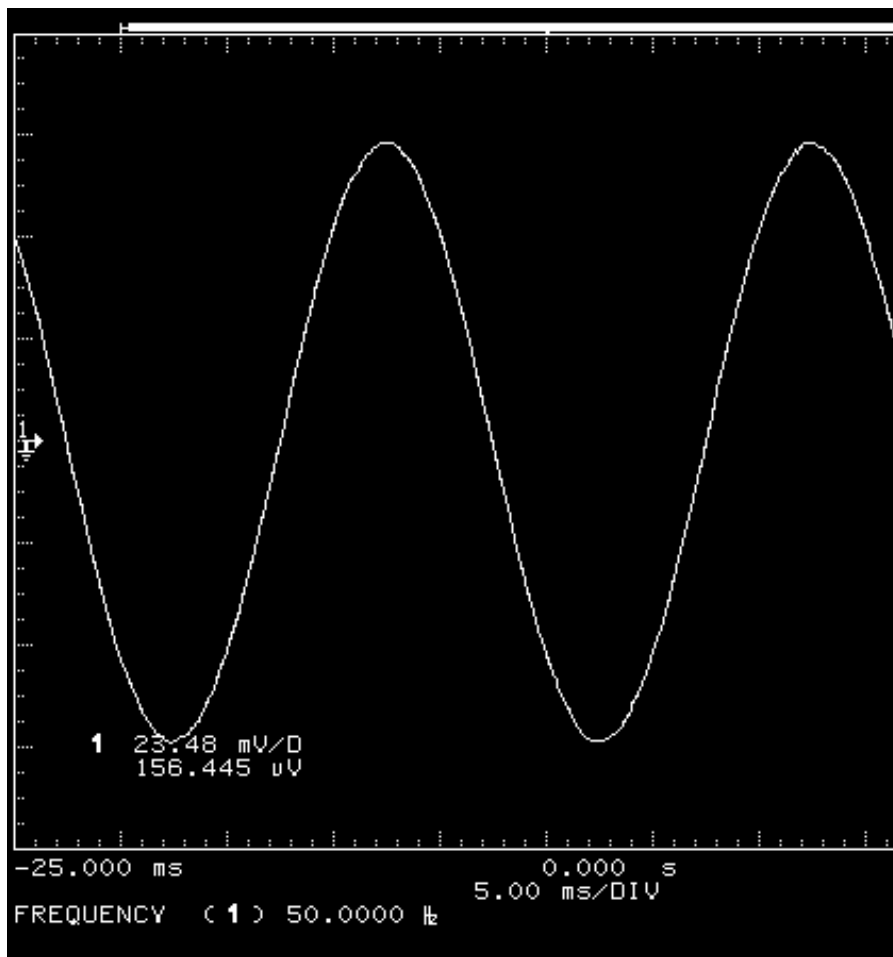

Figure 1
2. Make sure the scope's effective sample rate is as fast as possible. Most oscilloscopes decrease their effective sample rate as the time/div is slowed. (Note that repetitive scopes can have a high effective sample rate, even with a low actual sample rate). If you suspect an aliased waveform, increase the sweep speed to ensure that the scope is sampling as fast as possible for proper display of the waveform. For example, Figure 1 shows an aliased waveform at 5 ms/div. The actual signal is 13 MHz but the scope measures 50 Hz! At this sweep speed the scope is sampling at 10 kSa/s, severely violating the Nyquist* criteria. Figure 2 shows the same signal at 20 ns/div. At this sweep speed the scope is sampling at 2 GSa/s. The scope displays the correct signal and measures the correct frequency, 13 MHz.
3. Some oscilloscopes employ techniques to prevent aliasing. HP 54600-series oscilloscopes use a patented proprietary algorithm to reduce aliasing. In Figure 1 the signal is aliased. Figure 3 shows the same signal on an HP 54600B oscilloscope. The waveform is not aliased at the same sweepspeed due to the anti-aliasing algorithms.